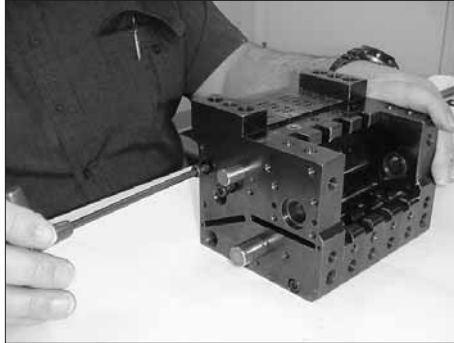

Figure 7-64 Securing the left-end slice
7. See Figure 7-64. Using an M5 hex wrench, secure the left-end slice to the assembly. Tighten the bolts to 12.4 N•m (110 in.-lb).